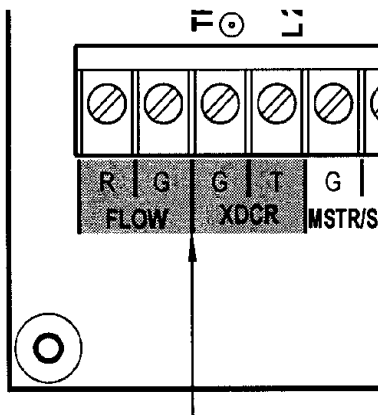

Figure 1
2. Connect the transducer cable connector to the terminal locations on the lower left corner of the D77 main circuit card. See **Figure 1**.